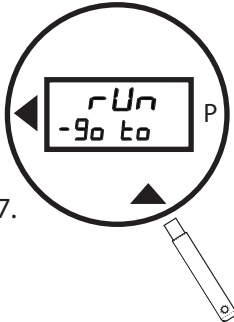

Figure 27.
- b. Pass the wand over ▲ to increment to the **rUn - Go** selection (Figure 27).